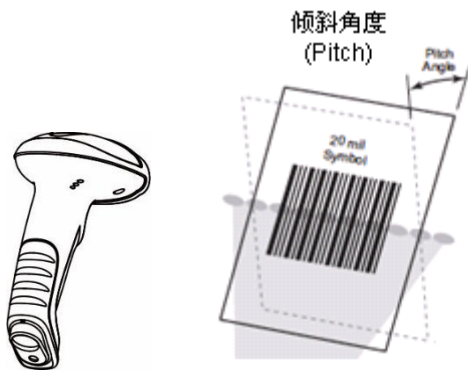

Fig. 1-12
- ◇ Pitch :  $\pm 55^\circ$ ,  $0^\circ$  Roll and  $0^\circ$  Skew (Fig. 1-12)